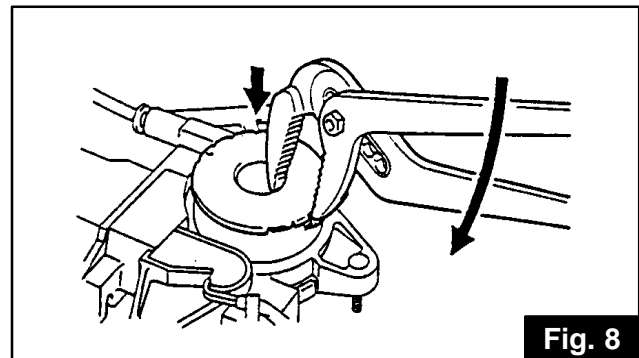

Fig. 8
- Use adjustable pliers to crimp the tab of the cover plate **see Figure 8.**